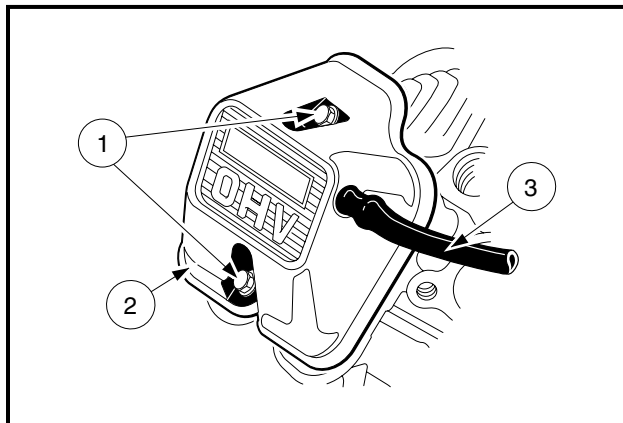

Figure 18-6 Remove Rocker Cover and Breather Tube
1. Remove the two bolts (1) and remove the rocker cover (2) along with the breather tube (3) (Figure 18-6, Page 18-7).